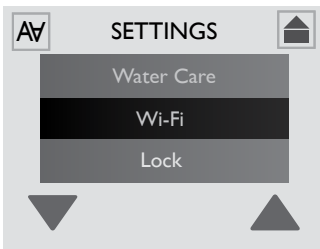

Figure 12.7a
From the Settings Menu, tap  or  to highlight the “Wi-Fi” Menu tab. Tap  to enter the programming options, Figures 12.7a and 12.7b. Make sure that you have downloaded the Wi-Fi App for this setup.
1. From the “Settings” menu, tap  (Figure 12.7a) to enter the menu.